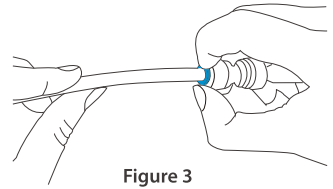

Figure 3
- Use your thumb and index finger to press down the lock sleeve. Use your other hand to pull out the tubing from the fitting. **(Figure 3)**